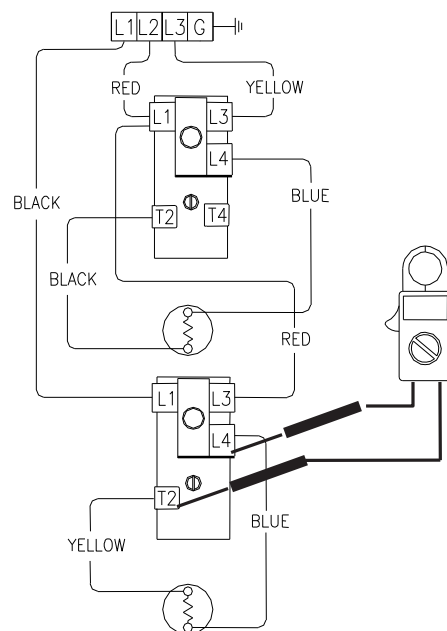

Figure 29
6. Check across terminals L4 & T2 of lower thermostat (see Figure 29).